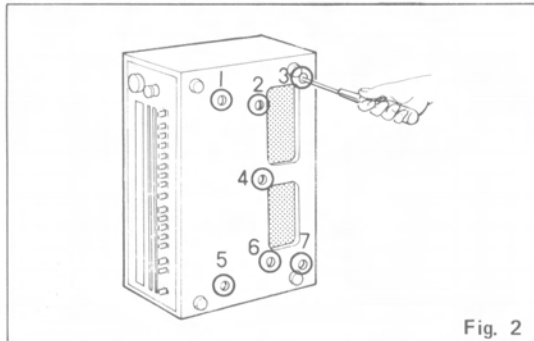

Fig. 2
- Remove screws 1~7 as shown in Fig. 2.